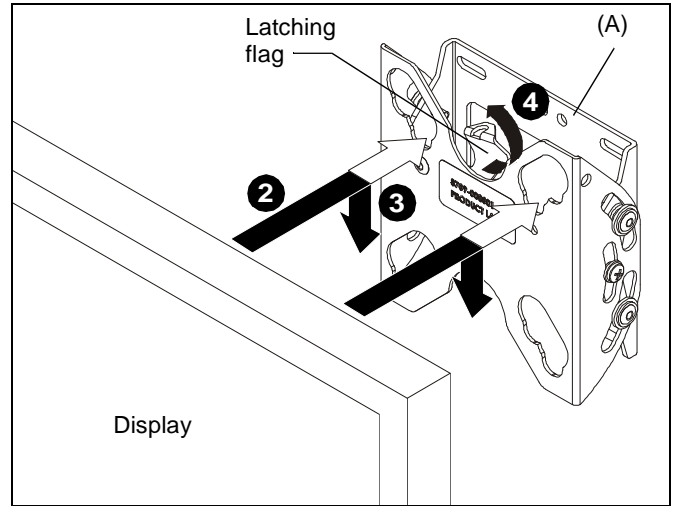

Figure 6
2. Lift and maneuver display such that all mounting buttons fit into openings on FTR (A). (See Figure 6)
3. Lower display firmly into place. Ensure each mounting button has fully seated in the opening (See Figure 6)
4. Close latching flag by rotating flag counterclockwise on FTR (A). (See Figure 6)